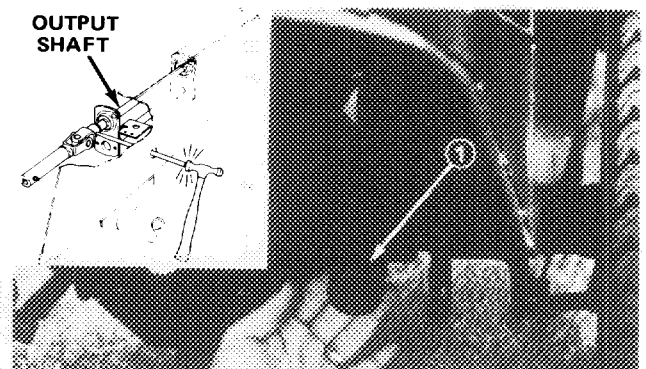

Figure 22
2. Remove five wheel nuts and slide left wheel off axle to expose access hole inside of chassis (Fig. 22).
3. Push PTO lever forward until pulley and brake disengage. Align hole in PTO shaft with hole in chassis (Fig. 22).
4. Through access hole in chassis, drive roll pin out of PTO shaft and output shaft with pin punch and ball peen hammer (Fig. 22).